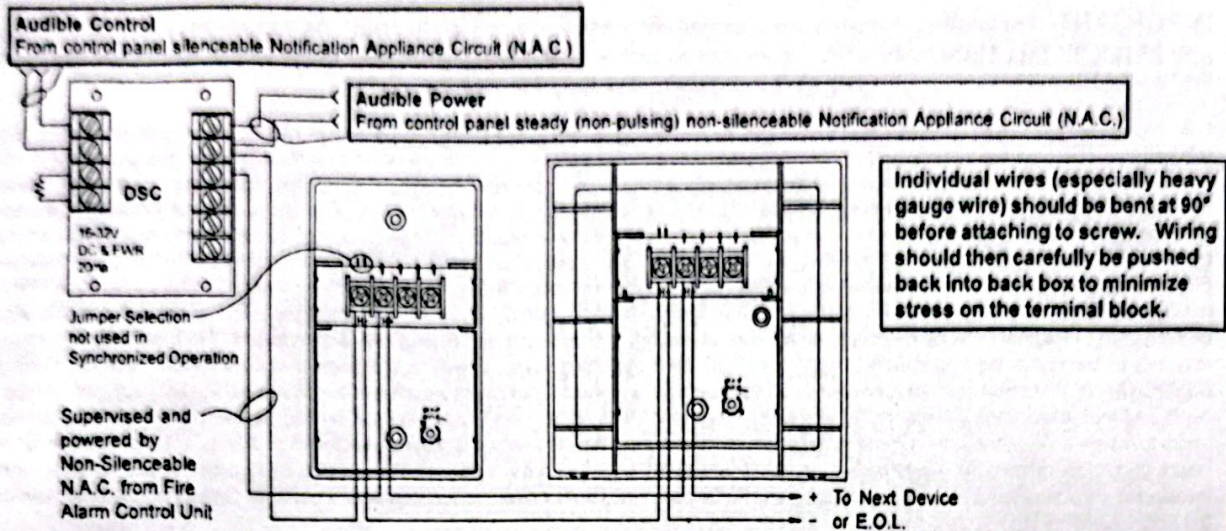

Fig. 4
1. Connect wiring (see fig. 4 or 5).
3. Connect wiring (see fig. 4 or 5).